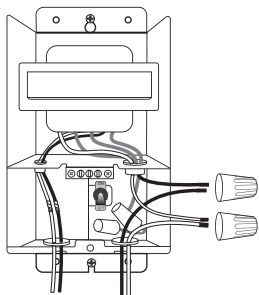

Figure 5
6. Use the included wiring caps to connect the output line of the transformer with your load input line, then place the connected line in the Low Voltage Wiring Compartment. (Figure 5) Note: (1) If the load has a ground wire, connect the ground wire to the Ground Terminal. (2) Do not remove the terminal block of the unused output line port, or it will cause short circuit.